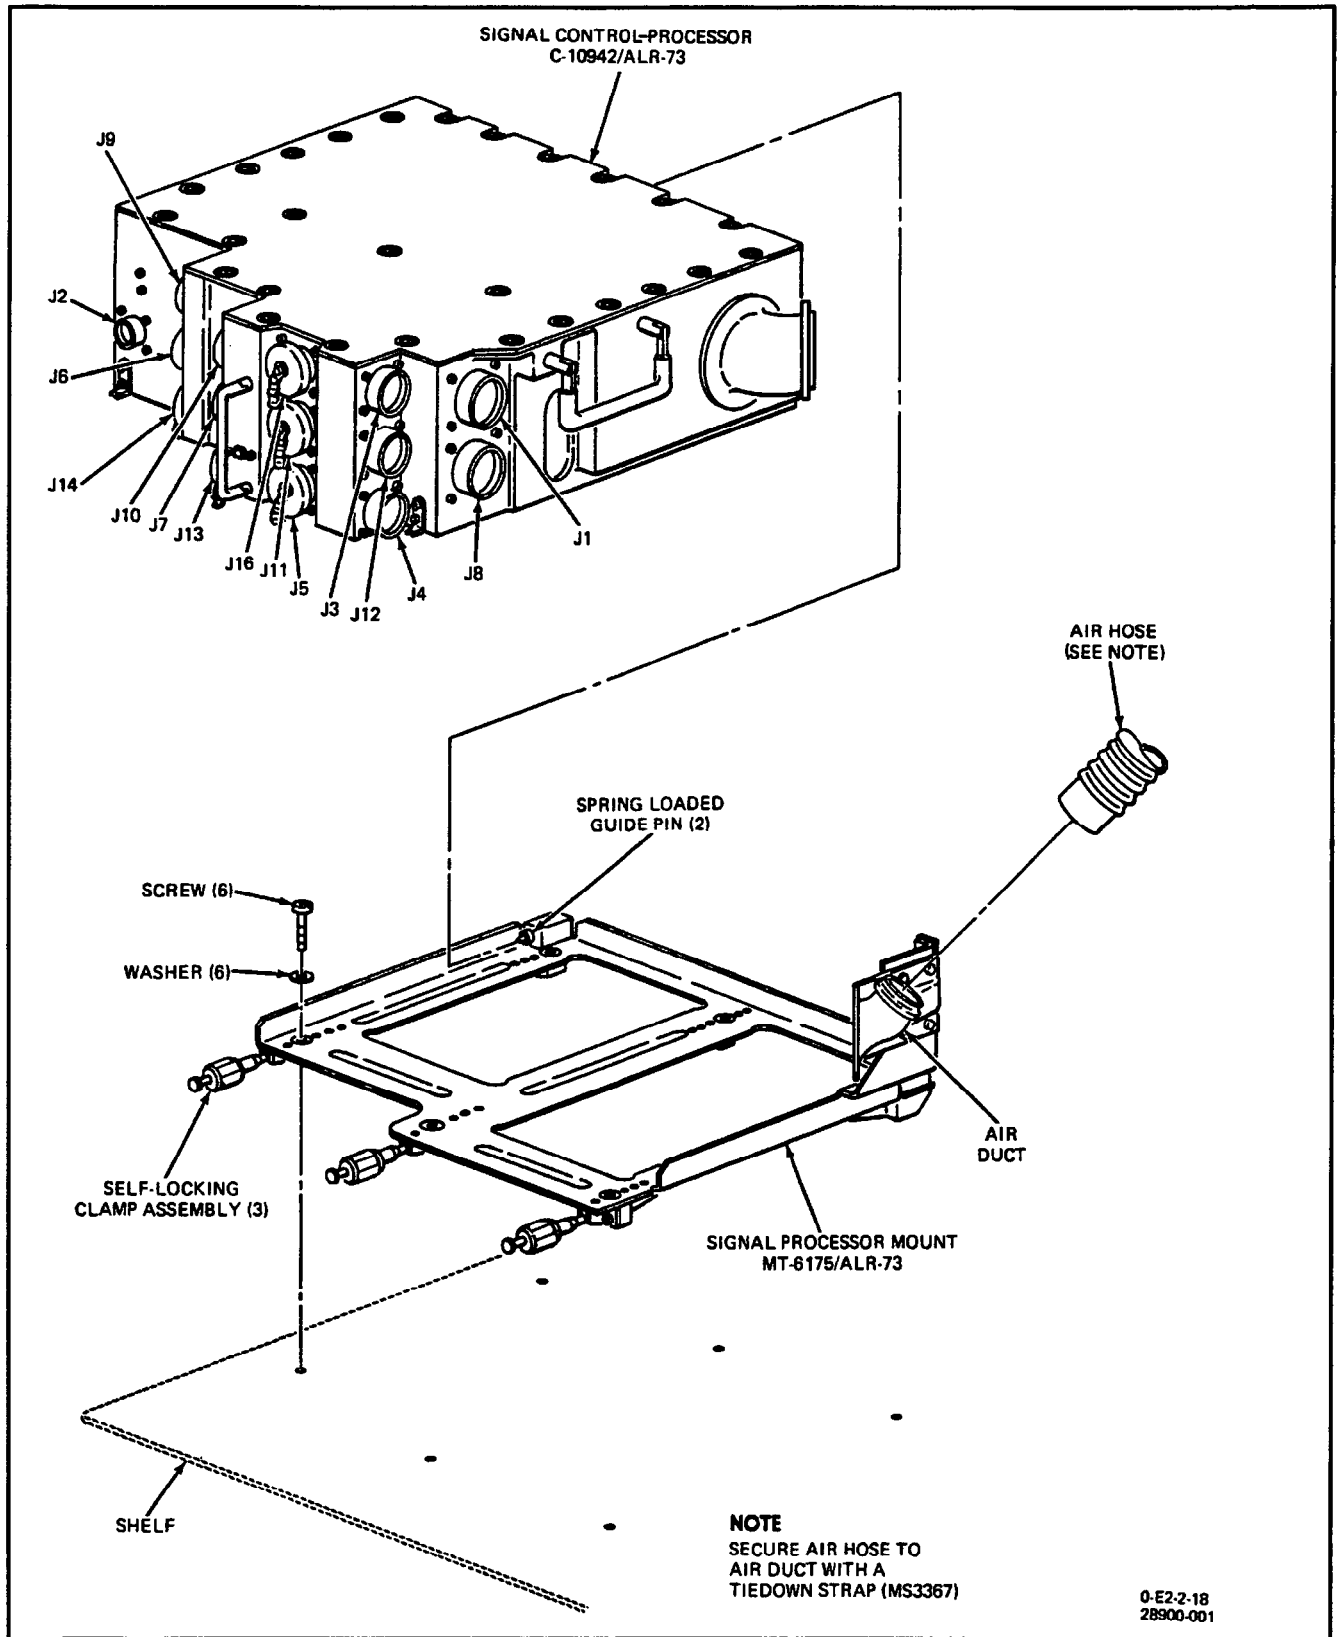

Figure 1. Removal and Installation of Signal Control-Processor C-10942/ALR-73 and Signal Processor Mount MT-6175/ALR-73
**5. INSTALLATION. (Figure 1.)**
**7. REMOVAL. (Figure 1.)**